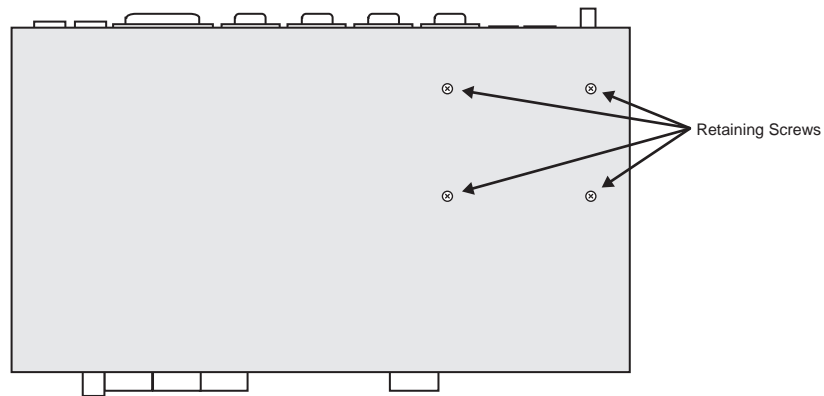

Figure 18.19 CPU Board — Retaining Screws Location
5. Locate the four **Retaining Screw** securing the **Hard Drive** in place (**Figure 18.19**).
9. Secure the replacement **Hard Drive** using the **4 Retaining Screws** you removed earlier (**Figure 18.19**).